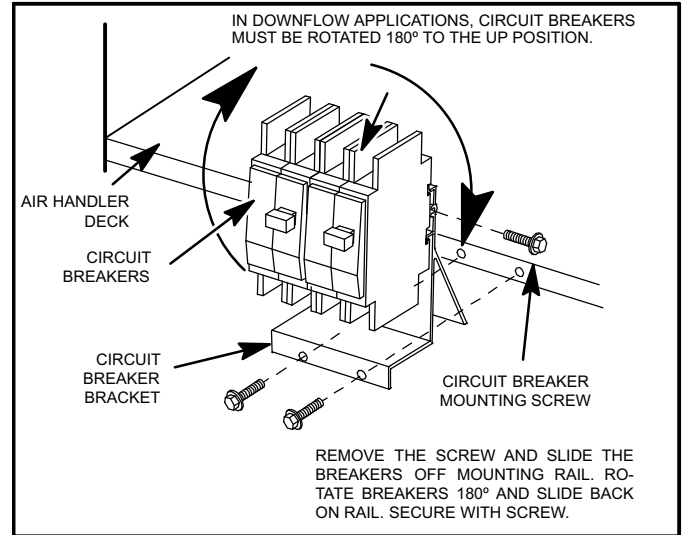

Figure 2. Electric Heat Section with Circuit Breakers
1. Install the circuit breaker on the air handler deck flange. Use the provided six screws to secure the circuit breaker (see figure 2).
See figure 2 and follow the procedure below: